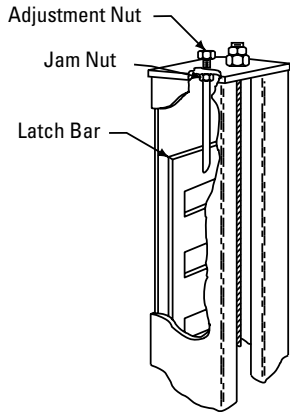
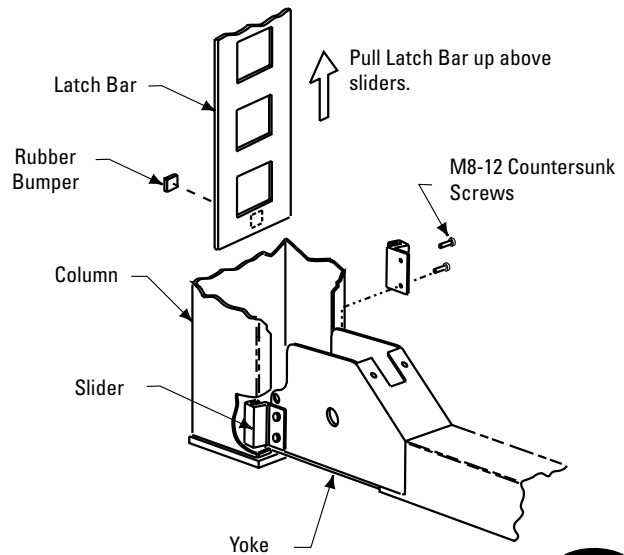

Fig. 5
Fig. 7
- C. Thread the jam nut down the threaded stud as far as possible. Stick rubber bumper to bottom of latch bar, see Fig. 7. Place the latch bar in the back of the column, Fig. 5.
- E. Start yoke end into the column, allowing slider bolt holes to stay exposed, Fig. 7. Then bolt sliders onto each side of the yoke end with M8-12 counter sunk screws. When both sliders are attached, push column toward yoke end until sliders touch latch bar.